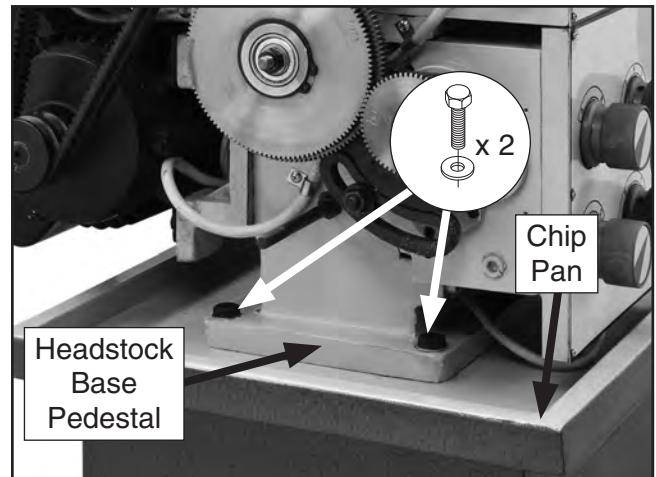

Figure 18. Lathe mounting hex bolts 2 of 6. (Headstock end cover removed for clarity.)
10. Position chip pan on top of cabinet stand and align (6) mounting holes with those in cabinets.
11. Remove headstock end cover to gain better access to the headstock base pedestal (see **Figure 18**).
14. Insert (6) M12-1.75 x 40 hex bolts and (6) 12mm flat washers through chip pan. Partially thread them into cabinet mounting holes (see **Figure 18**), but do not fully tighten them until instructed.
17. Fully tighten (6) hex bolts to secure lathe to cabinet stand.